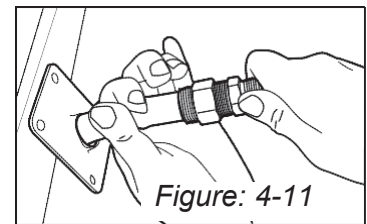
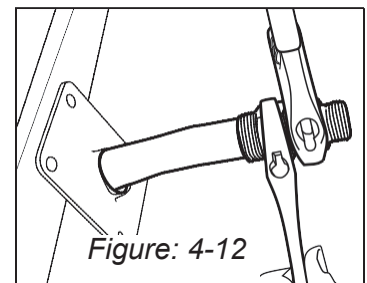
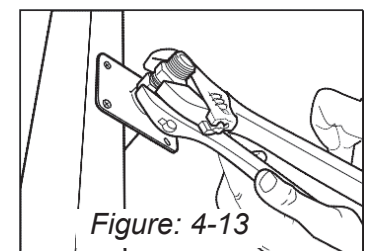

Figure: 4-11
Figure: 4-12
Figure: 4-13
B. PIPE TO FITTING CONNECTION: Attach fitting to pipe following all instructions in step 5. Figure:4-11 Once the fitting has been tightened to the pipe, slightly loosen this connection until the fitting can be rotated on the pipe. Figure: 4-12 Screw the fitting on to the flange and tighten. Holding the flange fitting nut, re-tighten the body. Figure: 4-13